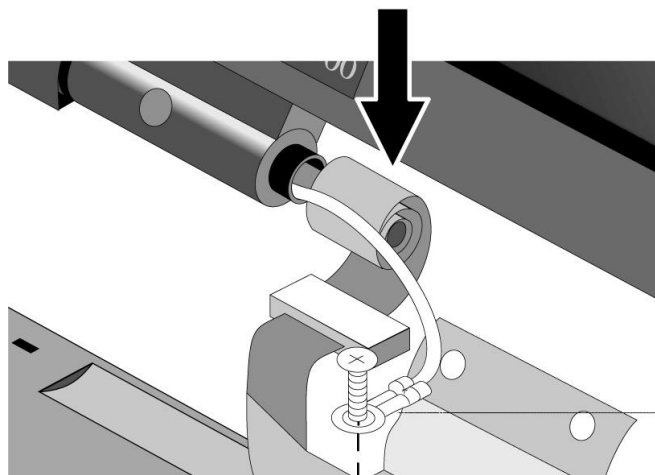

Figure 28 - Display Flex Cable Position
1. To replace, reverse the above Removal Procedure. Take care to properly position the Display Flex Cable. It must be wrapped three times around the post. See Figure 28.